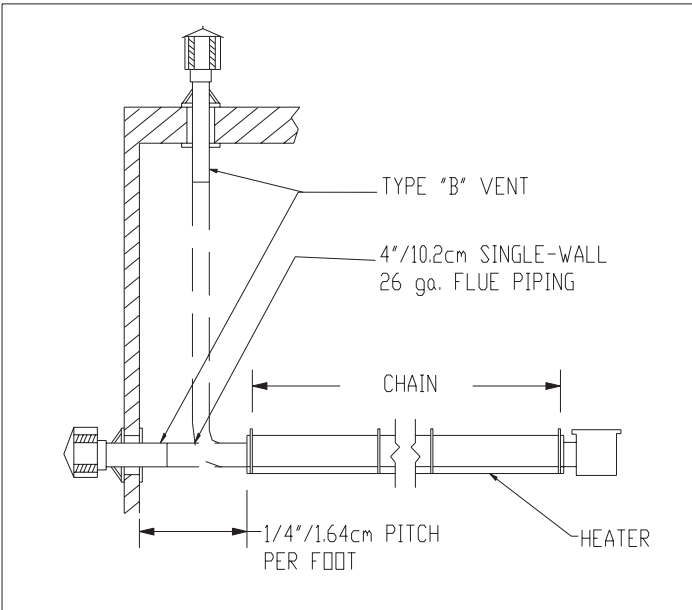

Figure 2.8.5
- * Horizontal flues should be pitched down toward outlet, ¼ in./1.64cm per ft. of vent length, to prevent rain from entering the heater (see Figure 2.8.5). Do not pitch heater.